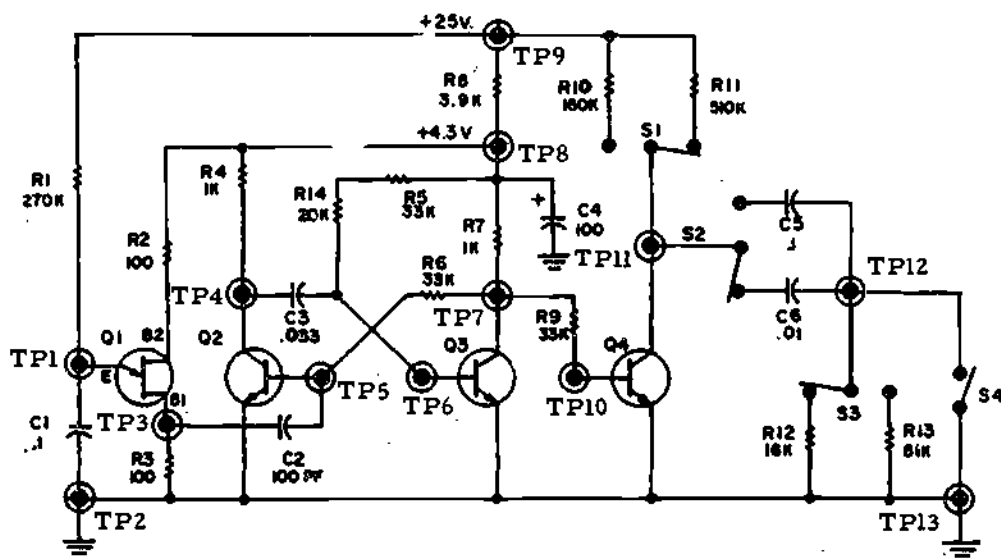

Figure 48-5
2. Trainer Analysis (see fig. 48-5)